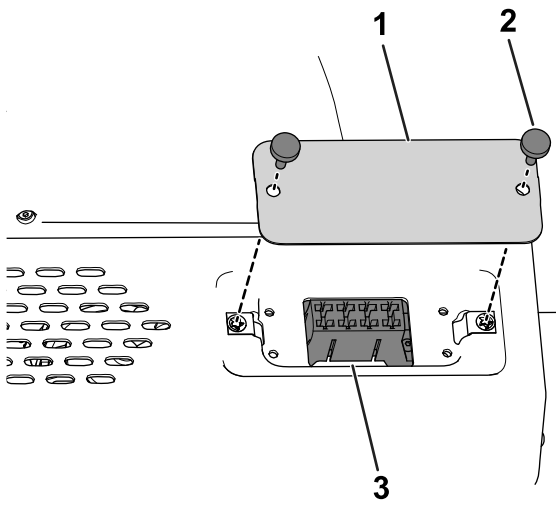

**Figure 65**
Torque the lug nuts at the front and rear wheels (4-wheel-drive machines only) in the pattern as shown in Figure 65 and Figure 66 to the specified torque.
- Front wheels: refer to Figure 65